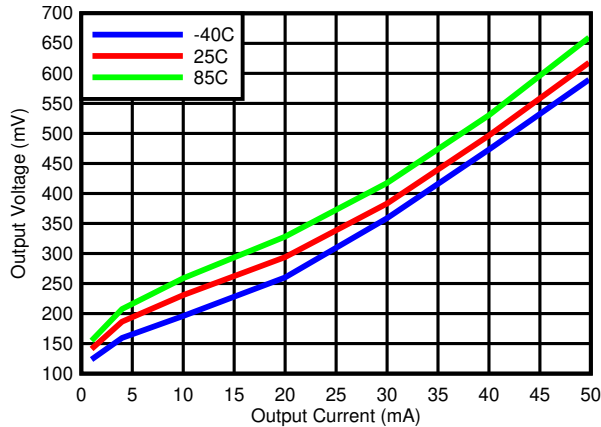
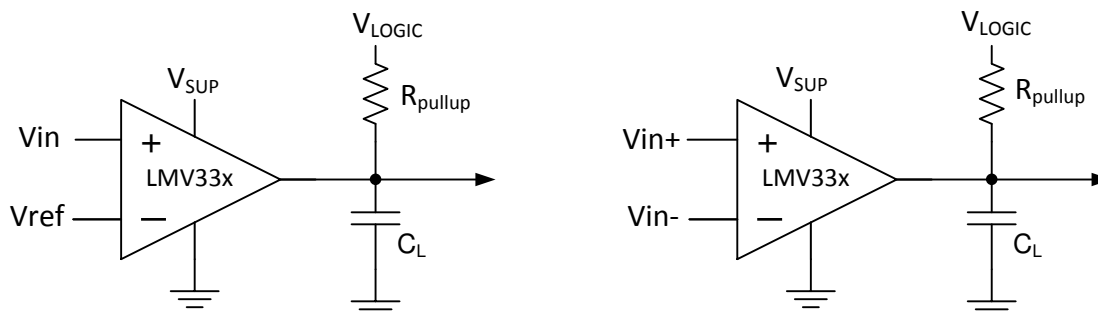

Figure 5-3. Output Voltage vs Output Current
Figure 7-1. Typical Application Schematic
The output consists of an open drain NPN (pull-down or low side) transistor. The output NPN sinks current when the negative input voltage is higher than the positive input voltage and the offset voltage. The  $V_{OL}$  is resistive and scales with the output current. Please see Figure 5-3 for  $V_{OL}$  values with respect to the output current.
Output current is determined by the pull-up resistance ( $R_{pullup}$ ) and  $V_{logic}$  voltage, refer to Figure 7-1. The output current produces a output low voltage ( $V_{OL}$ ) from the comparator. In which  $V_{OL}$  is proportional to the output current. Use Figure 5-3 to determine  $V_{OL}$  based on the output current.
- $R_{CE}$  can be determine by taking the slope of Figure 5-3 in it's linear region at the desired temperature, or by dividing the  $V_{OL}$  by  $I_{out}$